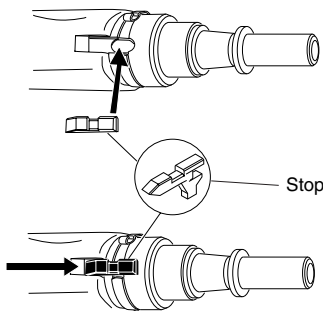

Figure 25 - Replacing Stop
5. Insert stop into slot on outer liner assembly (see Figure 25).
6. Push stop towards front of tool (see Figure 25).